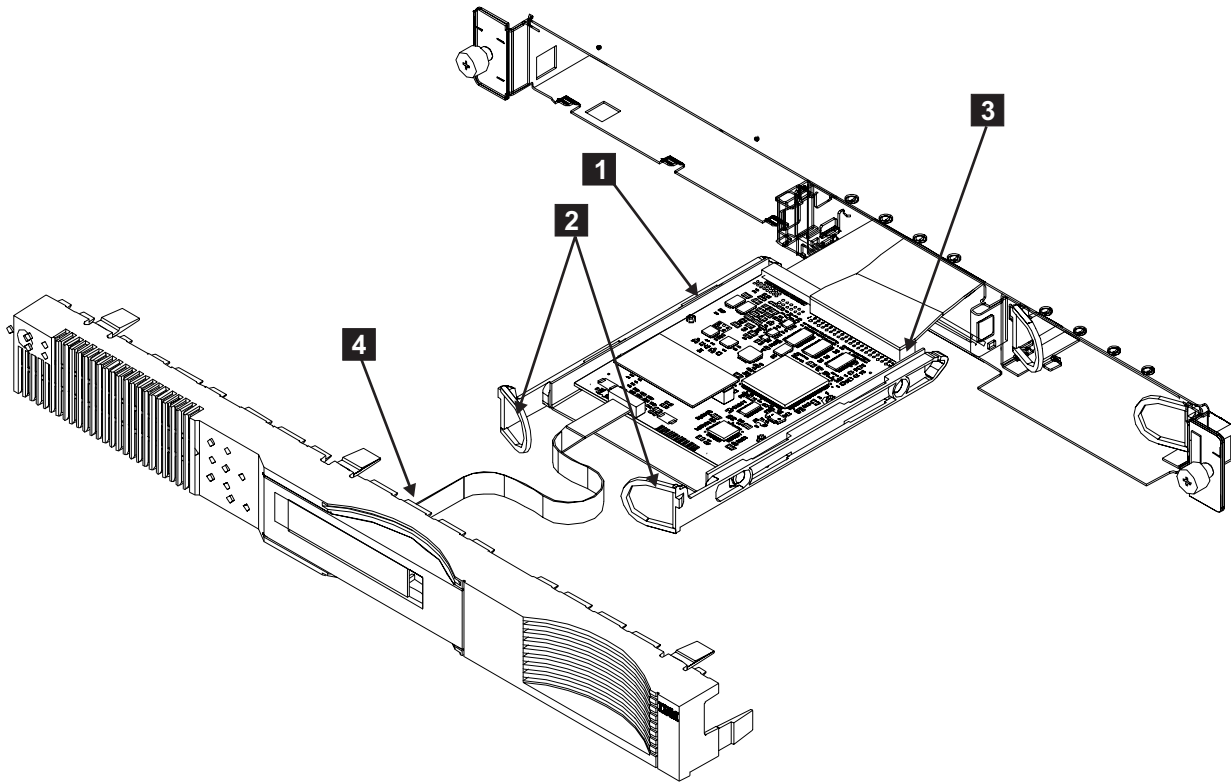

Figure 37. Removing the service controller
1. Remove all power from the SAN Volume Controller. See Figure 37 on page 167.